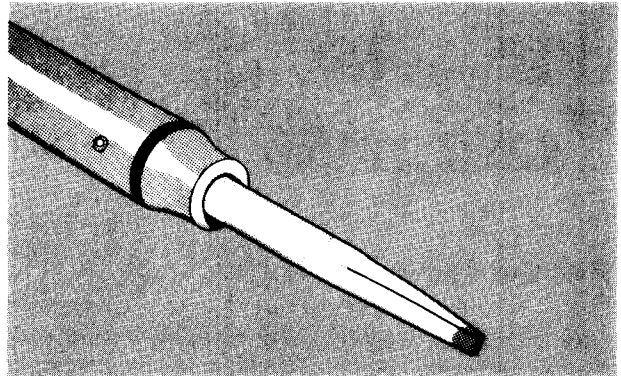

Fig. 4-1. Soldering iron tip correctly shaped and tinned.
Because of the shape of the terminals on the ceramic strips it is advisable to use a wedge-shaped tip on your soldering iron when you are installing or removing parts from the strips. Fig. 4-1 will show you the correct shape for the tip of the soldering iron. Be sure and file smooth all surfaces of the iron which will be tinned. This prevents solder from building up on rough spots where it will quickly oxidize.
2. Prepare the tip of the iron as shown in Fig. 4-1.